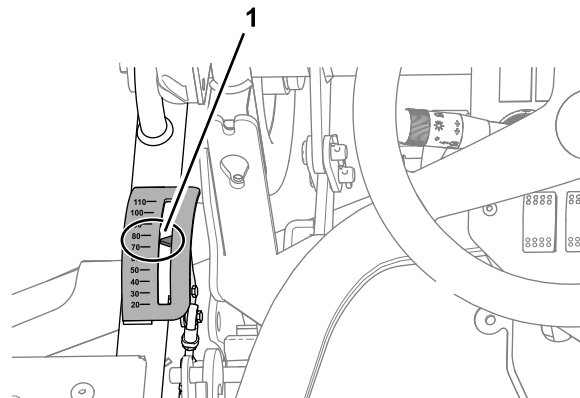

Figure 130
2. Sit in the operator's seat and look at the pointer of the height-of-cut indicator (Figure 130).
- B. Rotate the link until the pointer of the height-of-cut indicator is aligned to 75 mm mark when viewed from the operator's seat (Figure 130 and Figure 131).